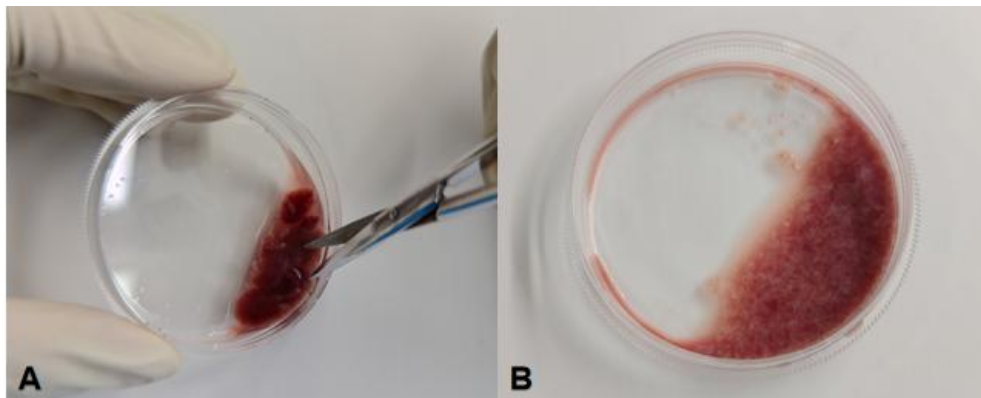

Figure 1. Treatment of liver tissue in vitro
- (1) Tissue **Washing**: Using a new set of ophthalmic scissors 3, curved forceps 1, bend forceps 1 to clamp the junction of the liver lobes and gently shake the liver tissue. At this time, blood stains flow out. discard the liquid in the dish and add new wash solution until the tissue is completely immersed. Rinse the tissue 2-3 times and use ophthalmic scissors 3 and curved forceps 1 to clean the blood stains, bile ducts, and blood vessels around the liver to obtain pure tissue. Transfer the tissue to a new glass culture dish, Add a little of **Specialized Washing Solution For Mouse Kupffer cells** until it just covers the tissue.
- (2) **Tissue Processing:** Tilt the dish about 45° to allow the liver tissue to gather at the bottom of the dish(which can be gently scraped off with curved forceps 1). Quickly cut the tissue into 1 mm³ pieces using ophthalmic scissors 3, until the tissue is sugar like (as shown in Figure 1) and there are no large pieces of tissue. Use a Pasteur pipette or a pipette with a wide mouthed tip to transfer the tissue fluid and transfer it to a 50 mL centrifuge tube. Add 5 mL **Specialized Washing Solution For Mouse Kupffer Cells** to clean the liver tissue culture dish and transfer it to the same centrifuge tube. Centrifuge at 300 g for 1 min, discard the supernatant, and retain the tissue precipitate.
- (3) **Tissue Digestion:** Add 5 mL of **Digestive Working Solution for Mouse Kupffer Cells** to the 50 mL centrifuge tube tissue sediment, blow and mix well, tighten the bottle mouth, wrap it with a sealing film to ensure no leakage, tilt it to allow tissue fragments to fully contact the digestion solution at 4°C for 16 hours of digestion (digestion time should not exceed 16 hours, as excessive digestion will have a significant impact on cell activity).
- (4) After digestion, remove the centrifuge tube and transfer it to a 37°C water bath shaker at 150 rpm for 15 minutes of digestion..
- (5) In the ultra-clean workbench, place a 70 µm Cell filter and 100 µm Cell Filter on a new 50 mL centrifuge tube. Pre-wash the filter with 1–2 mL Specialized Washing Solution For Mouse Kupffer Cells.
- (6) **Cell Filtration:** Remove the centrifuge tube and open it in the ultra-clean workbench. Blow the tissue suspension with a 5 mL pipette tip at least 30 times. Add 5 mL of **Specialized Washing Solution For Mouse Kupffer Cells** to dilute. Take the cell suspension at this time and filter it through a 100 µm cell filter and a 70 µm cell filter in sequence to collect the filtrate.